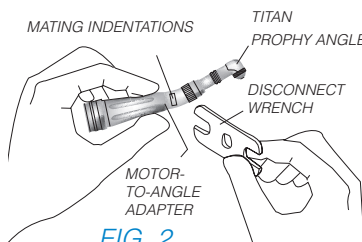

FIG. 2
- Fit angle disconnect wrench (FIG. 2), Star Part #203048, furnished with every angle, to mating indentations on angle neck; tighten securely.